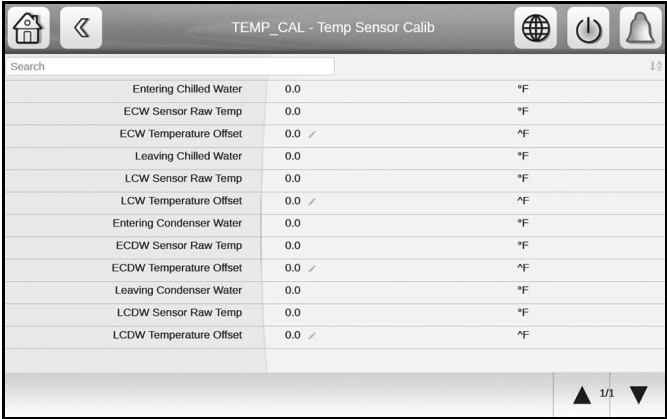

Fig. 37 — Temp Sensor Calib Screen
- In the Temp Sensor Calib screen, enter the temperature offset for the appropriate sensor as calculated in Step 4. See Fig. 37.